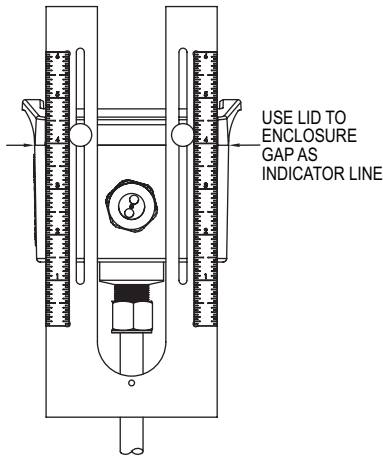

Figure 4: Alignment scale installed on IEFB
2. Use the configuration tag attached to the Series IEFB to identify the value of the alignment scale setting. Position the alignment scale such that the scale setting is lined-up with the seam of the enclosure as shown in Figure 4. Securely tighten the thumbscrews.